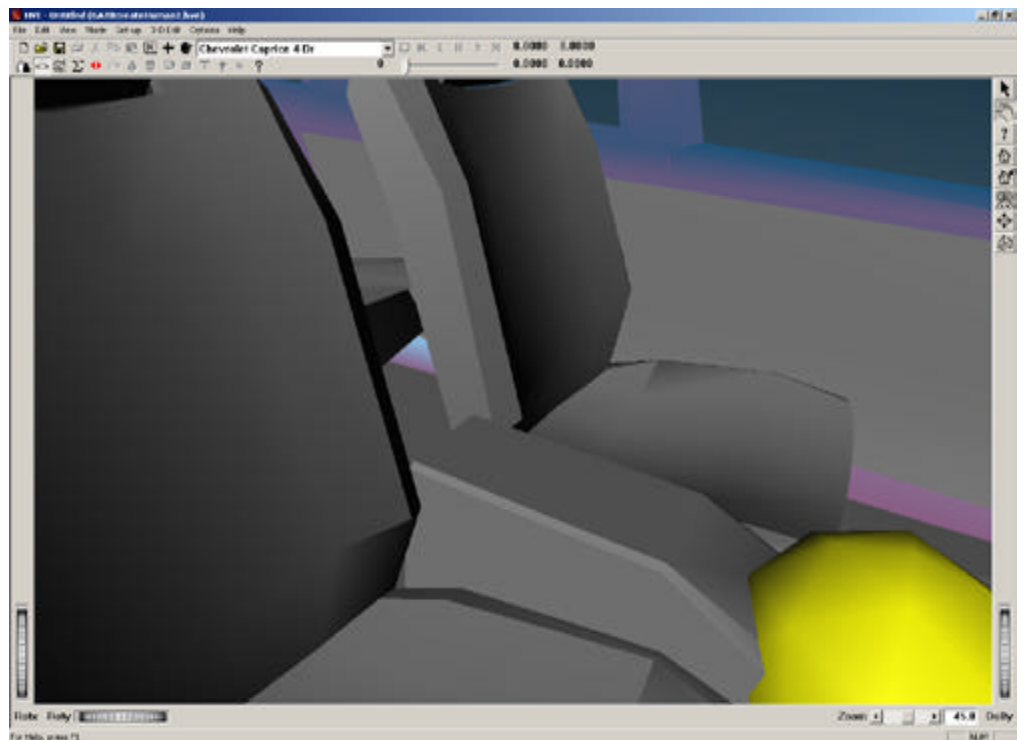

Figure 5-4: Close-up view of vehicle interior
- Next, with the hand manipulator selected from the right toolbar, move the camera position closer to the vehicle by pushing the left and middle mouse buttons at the same time. Alternatively, use the dolly thumb wheel located on the right lower portion of the viewer to slowly move closer to the vehicle until you are just inside the outer shell or mesh of the vehicle. Your view will look similar to Figure 5-4.